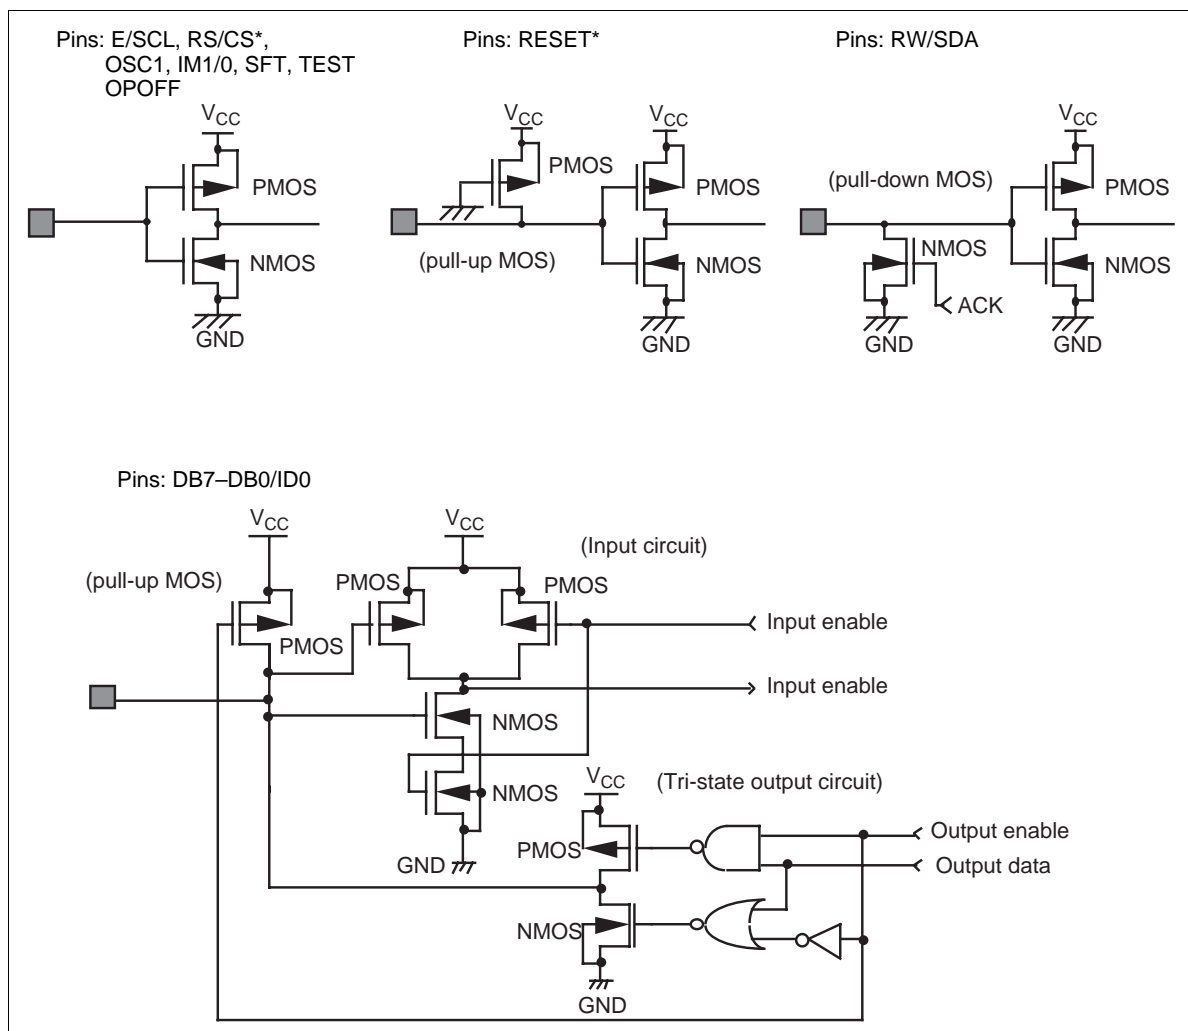

Figure 46 I/O Pin Configurations
5. The following four circuits are I/O pin configurations except for liquid crystal display output (Figure 46).